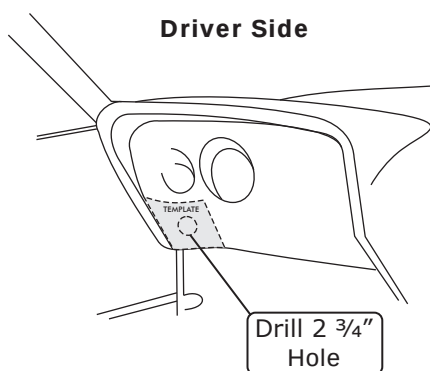

Figure 1
1. Cut out the template provided on Page 32. Place the driver-side template on the dash by aligning the left side of the template against the edge of the dash, then align the bottom of the template to the bottom of the dash as shown in Figure 1, below.
2. Cut out the template provided on Page 33. Place the passenger-side template on the dash by aligning the right side of the template against the edge of the dash, then align the bottom of the template to the bottom of the dash as shown in Figure 1, below.
3. Once the template is aligned correctly, use a center punch to mark the hole on the dash. Remove the template. Use a 2 3/4" hole saw to cut a hole in the dash (See Figure 1, below).
3. Install the center louver assembly as shown in Figure 1, below.